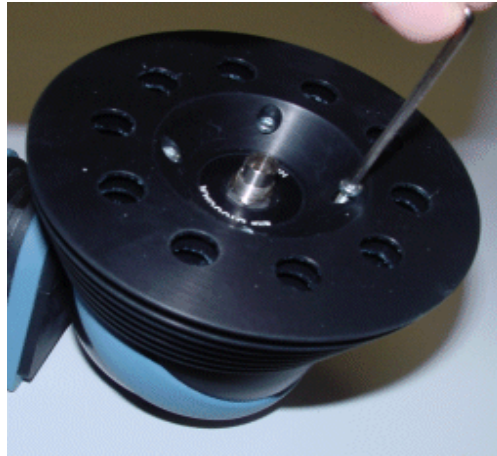

Figure 6 Attaching the Upper Part of the Heat Sink
- 3 Attach the upper part of the heat sink to the integrating sphere. Slide the upper part over the connector adapter with the largest diameter facing opposite to the sphere. Tighten the screws with the Allen key enclosed in the Heat Sink Kit (see Figure 6).